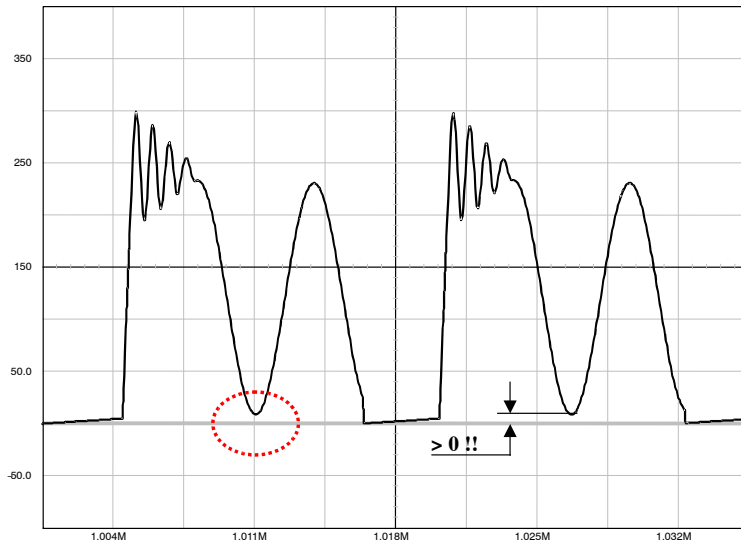

Figure 25. The Drain-Source Wave Shall Always be Positive . . .
1. In any case, the lateral MOSFET body-diode shall never be forward biased, either during start-up (because of a large leakage inductance) or in normal operation as shown by Figure 25.